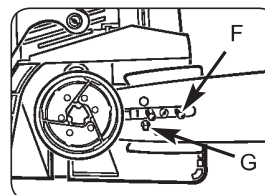

Fig. 3E
4. Place the slotted end of the guide bar over the 2 bar bolts (F). Position the bar so that the adjustment tang fits into the lower hole (G) on the guide bar (Fig. 3E).